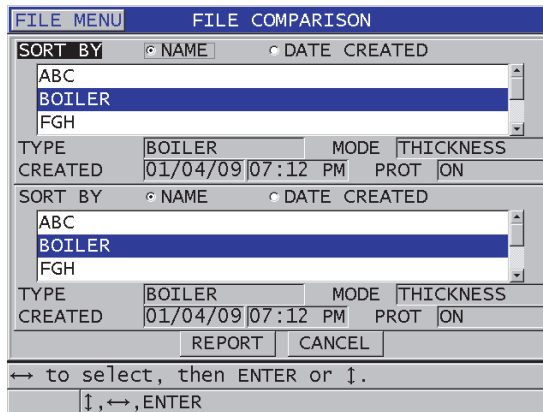

Figure 11-33 The FILE COMPARISON report screen
6. In the **FILE COMPARISON** screen (see Figure 11-33 on page 223):